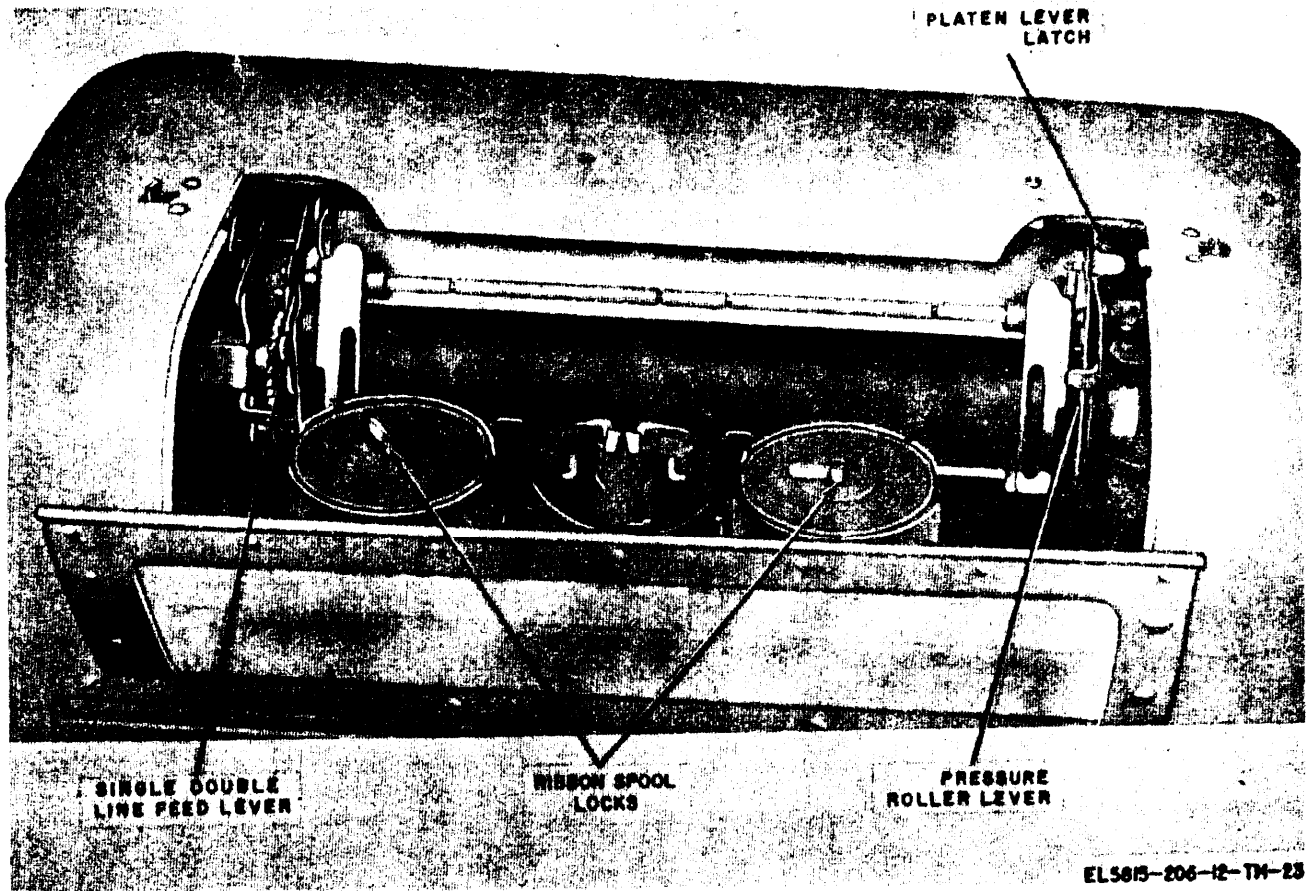

Figure 3-2. Platen controls (all models except TT-4A/TG and TT-698/TG)
| Pressure roller lever (fig. 3-2) | Used to release pressure of pressure rollers against platen. |
| Platen lever latch (all models except TT-4A/TG) (fig. 3-2) | Use to lock pressure roller lever in either pressure or release position. |
| Single-double line feed lever (fig. 3-2) | Used to adjust line-feed mechanism for single or double line feed. |
d. Push the single-double line-feed lever (fig. 3-2) to the rearward position for single line feed; pull it to the forward position for double line feed.
(5) If the paper is not centered on the platen, push the pressure roller lever of the TT-4A/TG or TT-698/TG slightly to the right and then forward to the pressure release position, or lift the platen lever latch (fig. 3-2) of all models except the TT-4A/TG and TT-698/TG. Move the pressure roller lever forward, and lower the platen lever latch. Center the paper on the platen and restore the pressure roller lever to the rearward (pressure) position.
a. If the teletypewriter is a TT-4A/TG or TT-698/TG, remove the dust cover as described in paragraph 3-5a. If it is any model other than the TT-4A/TG or TT-698/TG, swing the top door forward as shown in figure 3-2 to permit access to the inking ribbon.